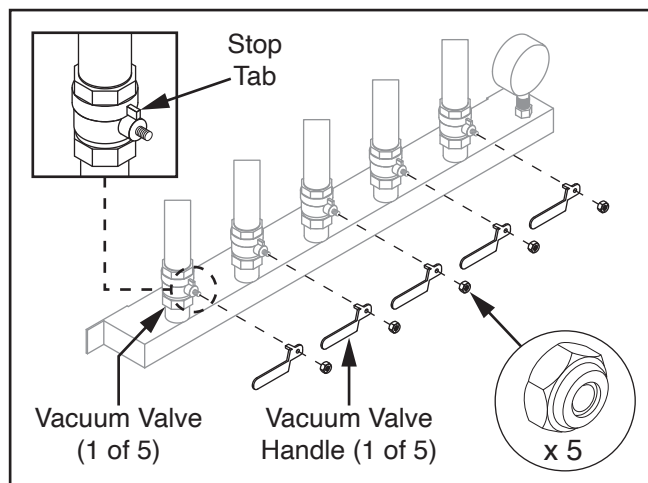

Figure 46. Installing vacuum valve handles (vacuum valve cover removed for clarity).
19. Install (5) vacuum valve handles on vacuum valves using (5) M6-1 lock nuts, as shown in **Figure 46**.
Note: Position vacuum valve handle so handle is pointing left, and tab on handle rests against stop tab on vacuum valve (see **Figure 46**).